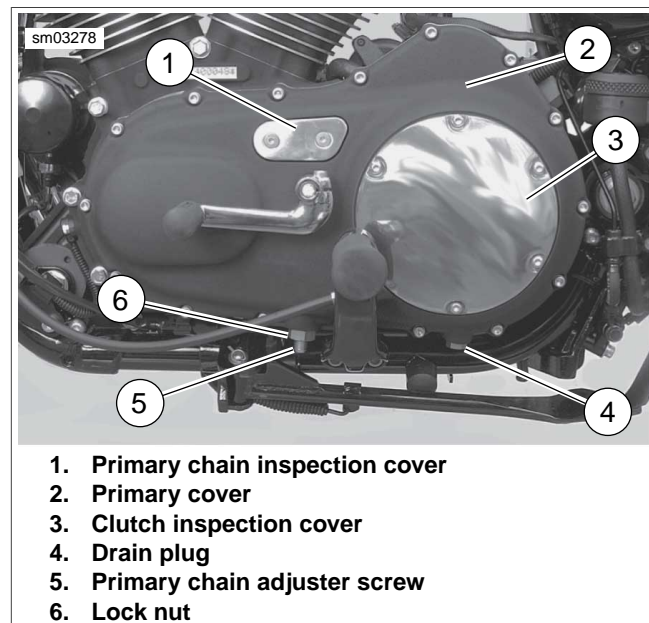

Figure 6-1. Primary Cover: All Models
6. See Figure 6-1. Place a drain pan under the engine. Remove drain plug (4) and drain lubricant from primary drive housing.
7. Loosen lock nut (6). Turn chain adjuster screw (5) counterclockwise to relax primary chain tension.